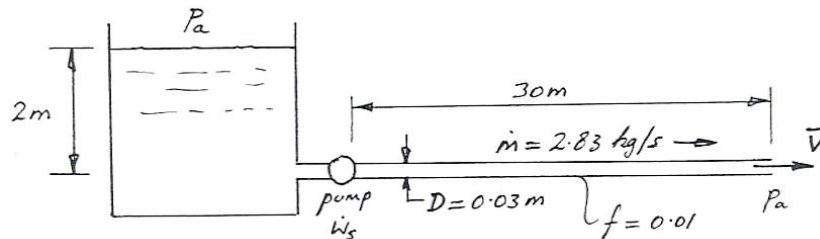

Figure P8.44
8.44 As shown in Figure P8.44, water flows from a large tank of depth 2 m through a square-edged entrance with a loss coefficient $K_1 = 0.5$ to a pump that delivers a mass flow rate $\dot{m} = 2.83\text{ kg/s}$ through a circular pipe of diameter $D = 0.03\text{ m}$, a length of 30 m , and a friction factor of 0.01 . The pipe exits to atmospheric pressure with an exit loss coefficient of